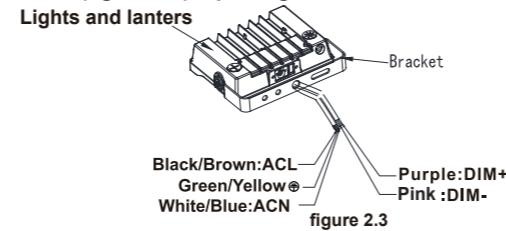

figure 2.3
Step 2: Finish the wire connection according to the right mode of connection (pay attention to positive wire, negative wire, and ground wire). (figure 2.3)